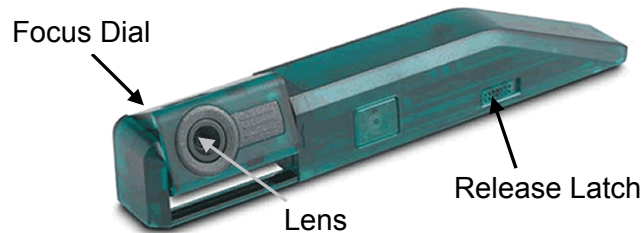

Figure 12-11.- Ultraport Camera.
- 2.5 Release latch to properly secure Ultraport Camera (refer to figure 12-11)
- 2.7 Rotate lens so that lens is directed towards user (refer to figure 12-11)
Move and hold release latch towards angled side of Ultraport Camera and remove Ultraport Camera from PGSC (refer to figure 12-11)